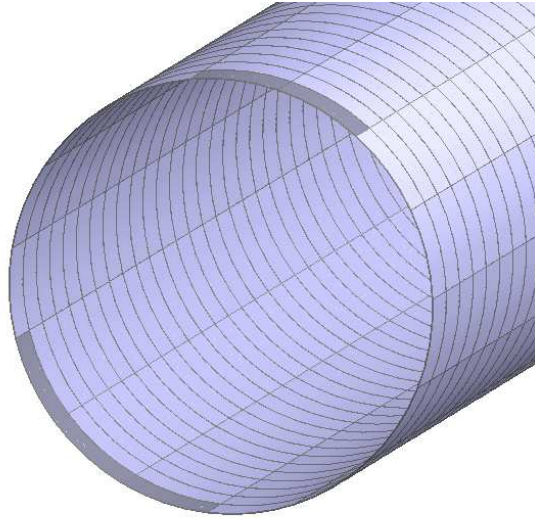

Figure 5.27: Select Elements for Creating a Seam.
- Select a few of the elements through which the seam is supposed to pass through. To select an element in the GUI: Left-click on the element with the *shift-key* held down. (Figure 5.27)